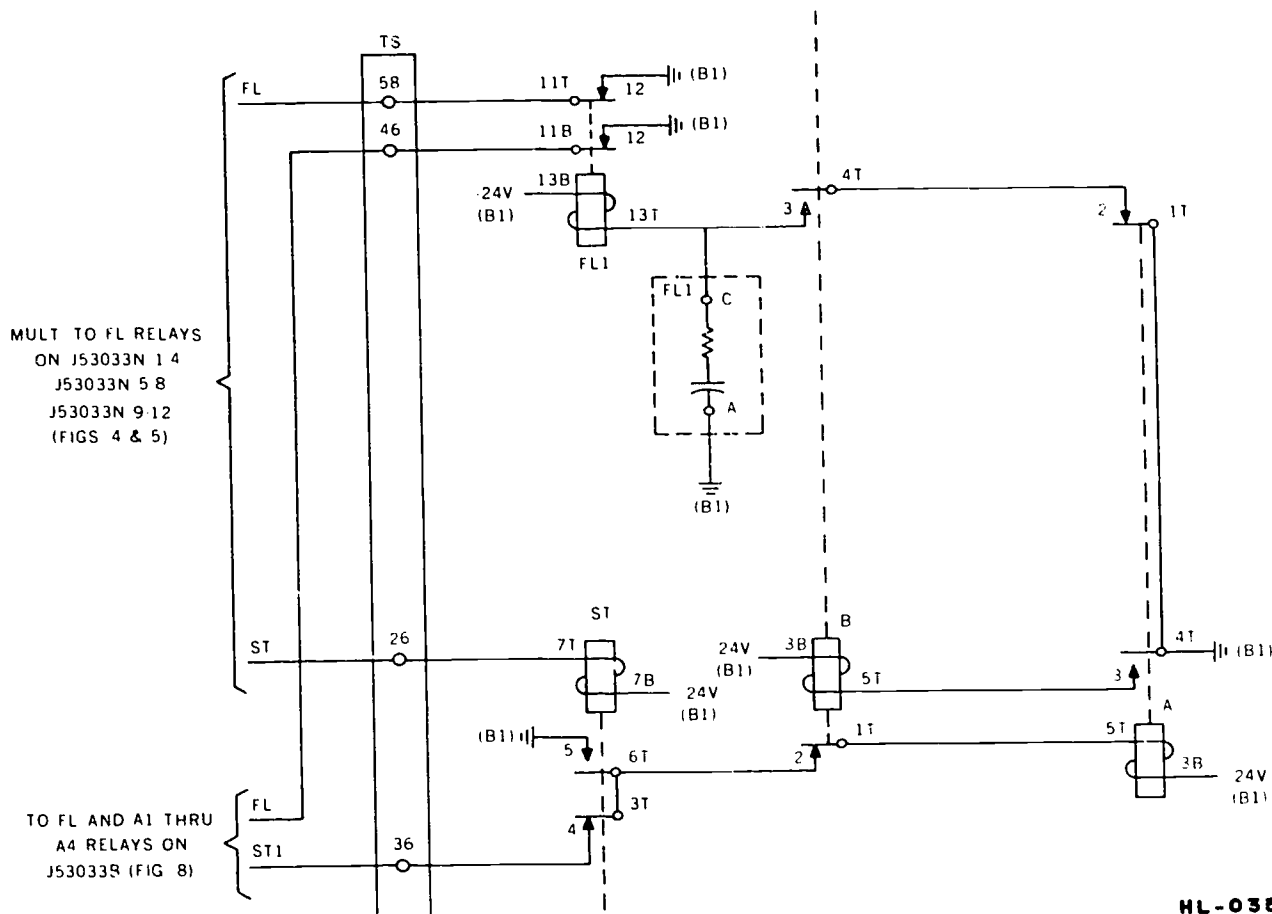
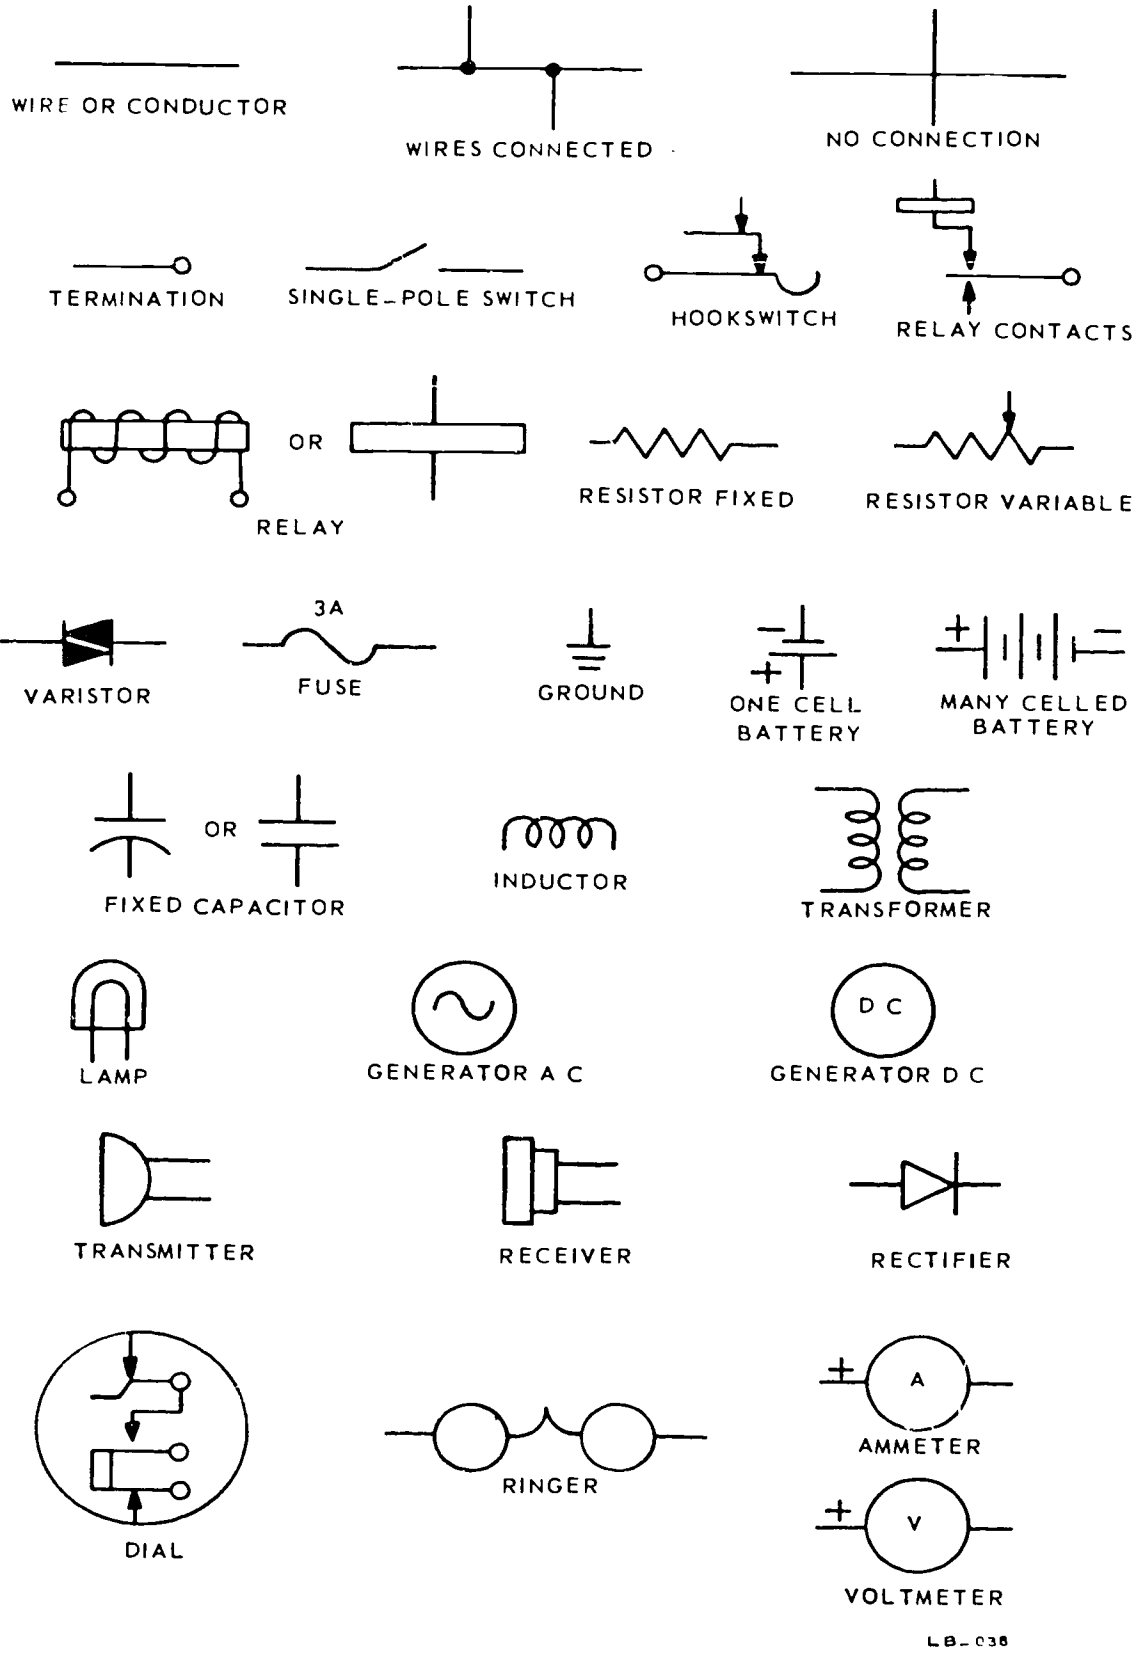

Figure 4-1. Example telephone system circuit.
Figure 4-2. Representative electrical symbols.
Energized. Energized refers to a condition in which current is flowing in the device; thus, it is operating. To illustrate, when relay A in figure 4-1 is energized, it opens contacts 1T and 2 and makes contacts 3 and 4T. Yet, energized may not mean this in all circumstances because
Preparing a circuit. You will often find this expression used when the circuit activities of communications equipment are being described. It identifies an action within a circuit which has several open contacts, where one part of the circuit has just been closed. Now look at contacts 3 and 4T for relay B in figure 4-1. They close together when the B relay operates to prepare the operating circuit for relay FL1. Relay FL1 will operate only after relay A restores, following the operation of relay B, thereby closing contacts 1T and 2.
Electrical Symbols. Symbols which represent the various devices on electrical equipment schematic diagrams often differ. Figure 4-2 pictures some of the symbols with which
you should be familiar. To illustrate, the straight line represents a wire which you traced many times in the resident course. Thinking of each symbol as a part of the circuit and understanding its function make circuit analysis easier. Consequently, equipment trouble can be located and repaired more rapidly. Let's now look at the symbol relationship of the circuit components in the schematic diagram of figure 4-1.
This figure shows the relationship of some devices in a circuit for one communications system. You will learn more about this circuit in Volume 4. On this figure you can see that the negative of the 24-volt battery (B1) is connected to the B terminal of the four relays (A, B, ST, and FL1). In addition, contacts 3 and 4T of relay B appear beside relay FL1. This appearance is not a true representation of their position because they are actually included within the framework of relay B and beside contacts 2 and 1T. It is not good practice to memorize schematic diagrams for circuits. This type of illustration can be misleading. Other circuit symbols for figure 4-1 are comparable to the symbols of figure 4-2; for example, straight lines for conductors, circles that represent terminals, and conductors that cross without making a connection. Remember, when you place various symbols together in a specific manner, you have an electrical diagram.
1. Give the term that indicates the condition of relay ST when ground potential is connected to terminal 26 of block TS (fig. 4-1).
2. Give the term used to describe the action of relay contacts 3 and 4T of relay B in text figure 4-1.
3. What voltage should you find at terminal 26 of the TS term strip (fig. 4-1)?
4. Name the two devices connected between terminals A and C within the dashed line block of text figure 4-1.
5. Using text figure 4-1, name the devices that provide the operating circuit for relay FL1.
We saw that figure 4-1 is a schematic diagram. You know that there are many diagrams that can be used to simplify circuit analysis. Consequently, you should not find it difficult to understand the theory and principles of a
031. Using figures 4-1 through 4-5, identify circuits, circuit components, circuit functions, and circuit connections.
Schematic Diagram. This diagram (see fig. 4-1) is most often used when explaining the circuit relationships because the circuits are easier to trace. The schematic allows emphasis of the important features of the circuit. Conventional symbols are used, but their position or placement does not necessarily correspond to the location of the actual part within the equipment circuit. Since schematics are not true pictures of an equipment circuit, learn the principles of operation of the devices of the circuit. This includes a knowledge of the current in the circuit, the voltage at the various components, and the power requirements. Effective understanding is made possible by breaking the complex circuits into a number of simple circuits. Frequently, certain small groups of parts form relatively simple units within the complex circuit. For example, a diagram of a complete telephone system can be broken down into a transmitter circuit, a receiver circuit, a ringing circuit, relay circuits, and several other smaller circuits. Learn to recognize these units and relate them to others. Each unit should be understood or thought of in terms of its function in the circuit. Also, try to visualize the actual unit position in relation to its position in the schematic.
The schematic diagram of figure 4-1 can be broken down into the START FLASHING circuit and LAMP FLASHING circuit. Relays ST, B, A, and FL1 start the equipment LINE lamp flashing. The FL1 timing circuit (consisting of the resistor and capacitor between terminals A and C) control the length of time that the lamp flashes.
1. Give the battery number that provides -24 volts to the relays of the LAMP FLASHING circuit illustrated in figure 4-1.
Direct-Current Circuit Analysis. Let us look again at figure 4-1 and assume some resistance values for the purpose of analyzing this circuit.
1. Consider relay FL1 of text figure 4-1 as having a resistance of 600 ohms. What current would be in the relay when the operating circuit is complete?
2. Assuming that the current for the operating circuit of relay A in test figure 4-1 is .015 amperes, what would be its resistance?